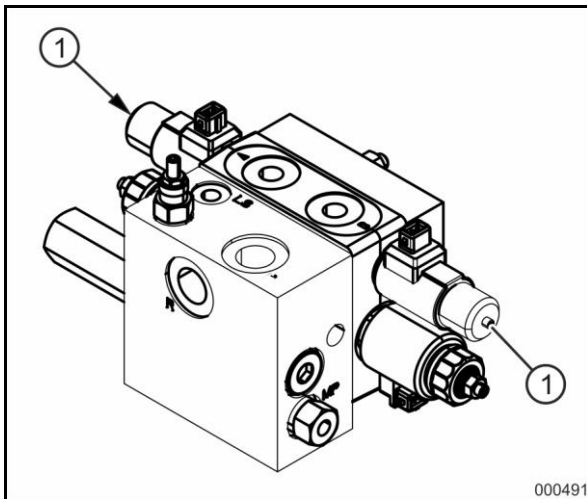
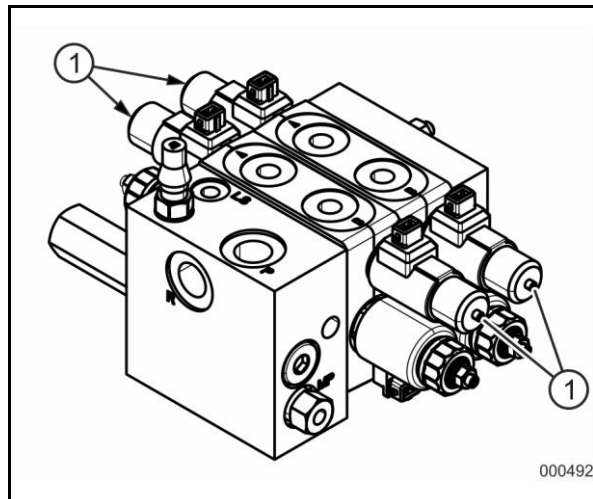

Fig. 172 Control block with tandem chassis
Fig. 173 Control block with tridem chassis
2. Use a hexagon key SW 3 to screw in the grub screws(1) Fig. 172 / Fig. 173.
2. Unscrew the grub screws (1) Fig. 172 / Fig. 173 again.